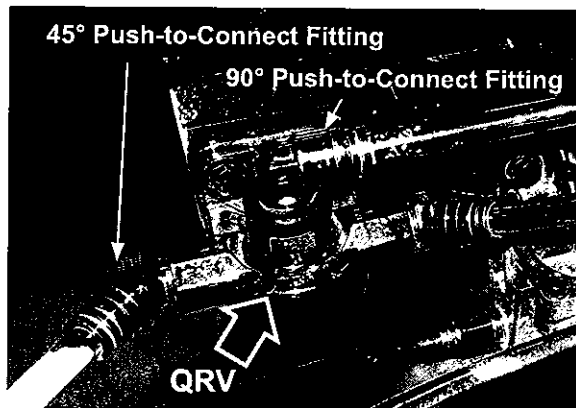

Figure 3, QRV, Tag (Auxiliary) Axle
7. Locate the QRV's on the auxiliary axle (see QRV Location Guide, page 5 of this Bulletin). Using quick release pliers, remove the LH and RH brake lines from the 45° push-to-connect fittings, then using a 3/4 In. combination wrench, remove the push-to-connect fittings from the QRV. (See Figure 3)
8. Using quick release pliers, remove the air line from the 90° push-to-connect fitting, then using a 3/4 In. combination wrench, remove the push-to-connect fitting from the QRV. (See Figure 3)
9. Using a 1/2 In. combination wrench on the bolt and a 1/2 In. socket w/ratchet wrench on the nut, remove the (2) bolts and (2) locknuts holding the QRV to the bracket. (See Figure 3) Remove and inspect the QRV.